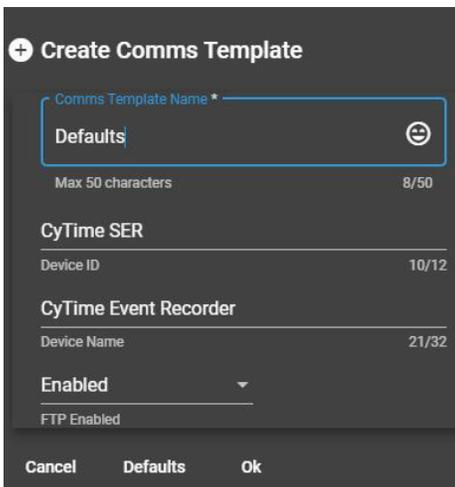

Figure 32.
**Step 7:** Click the ‘Start Comms Update’ (Figure 32) to apply the template. You will see the status change from pending, to In progress, to Completed Successfully. You will notice the ‘Disable FTP’ template will be shown under the ‘Template’ column for each device the template was applied.